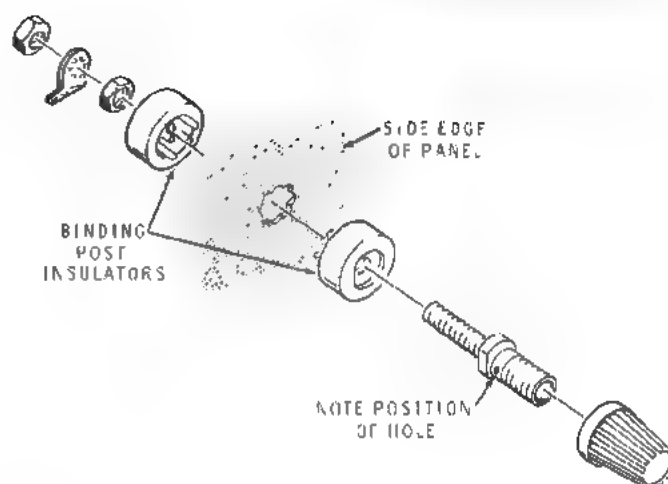

Figure 13
- () Referring to Figure 13, mount the binding posts in positions BP-1, 2, 3, and 4 as shown in Figure 10.